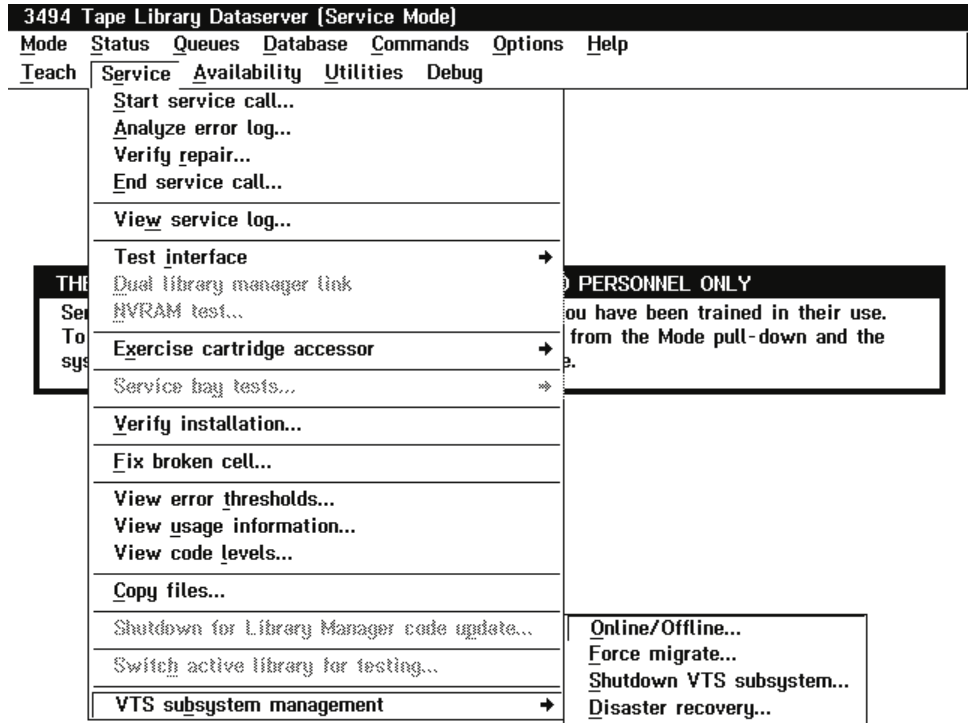
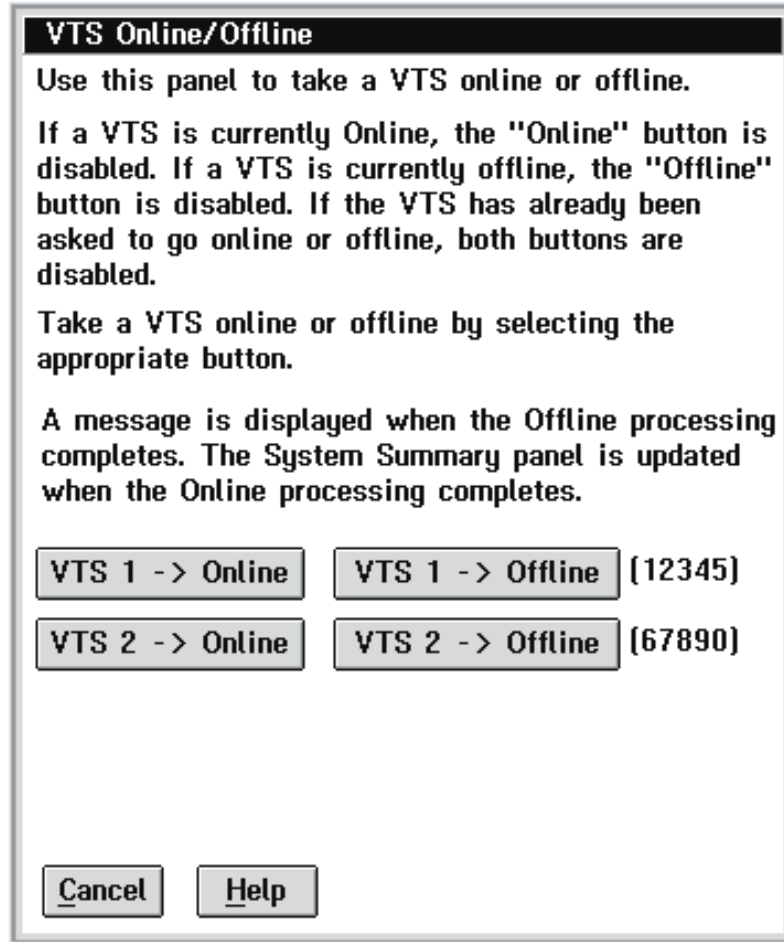

Figure 106. Service Pull-down Menu
Figure 107. VTS Online/Offline Pop-Up Window
3. From the **Service** pull-down, shown in Figure 106 on page 175, select **VTS Subsystem Management** and **Online/Offline** to display the VTS Online/Offline Panel (Figure 107 on page 176).
Figure 106 on page 175 shows the Service Pull-Down Menu.
Figure 107 on page 176 shows the VTS Online/Offline Pop-Up Window.